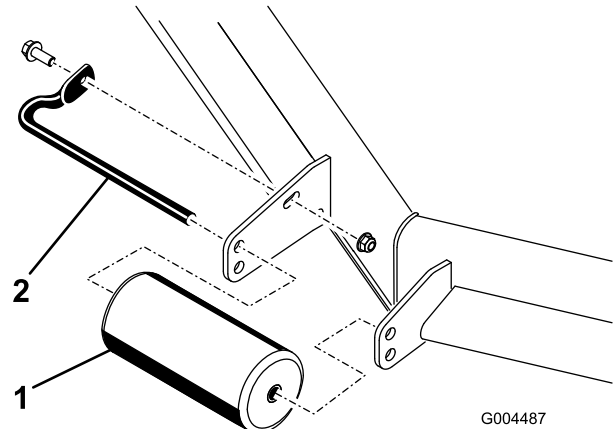
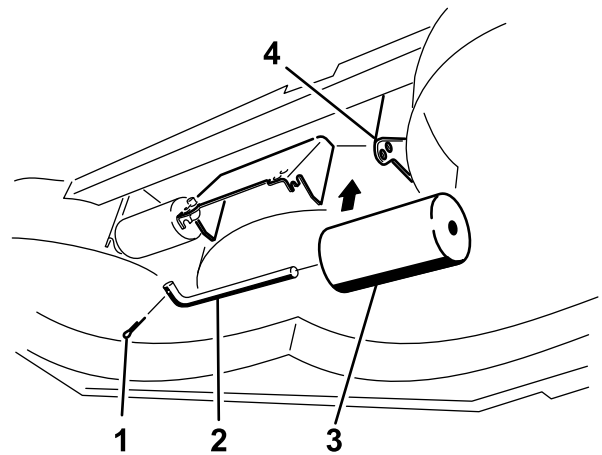

Figure 25
Figure 29
4. Remove the fasteners securing each roller on your mower deck and move the rollers up or down as desired; refer to Figure 25 through Figure 29 as applicable for your mower.